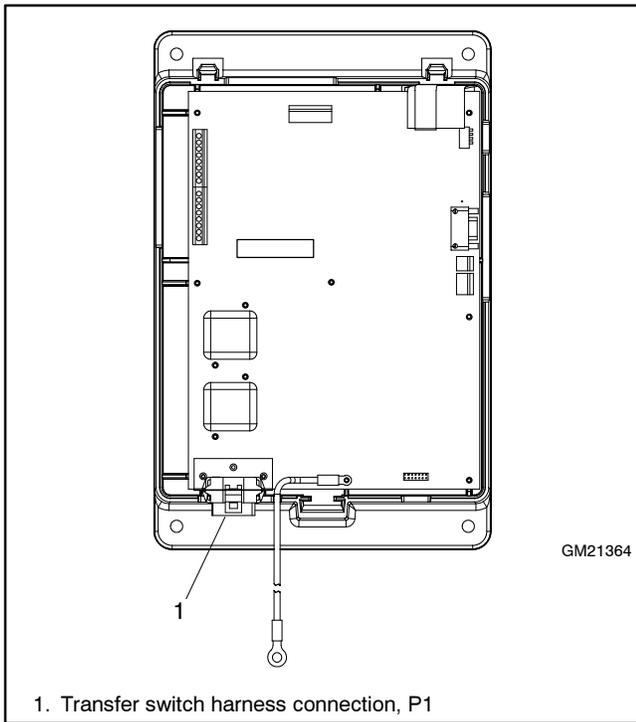

Figure 3-18 Transfer Switch Harness-to-Controller Connection, P1
1. Connect an ohmmeter or test lamp across pins 8 and 9 of connector P1 (the transfer switch harness-to-controller connection). See Figure 3-18.